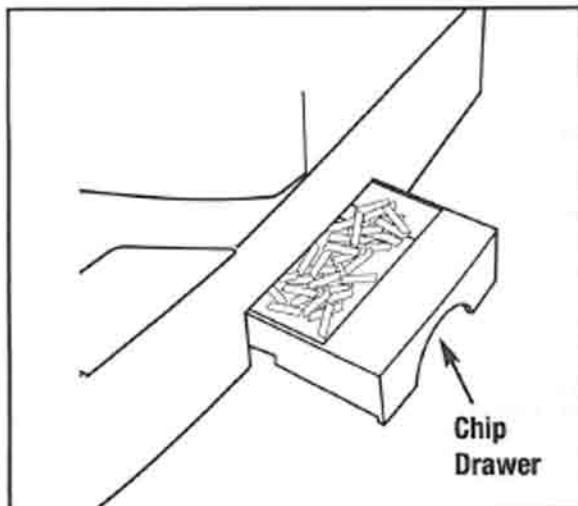

Figure 5
C. EMPTY CHIP DRAWER (see Figure 5)
1. Your CombBind C210E has a chip drawer located on the right side of the machine (see Figure 5). When it is full, an indicator light located above the punch button will illuminate. To empty, gently pull the drawer open and remove it from the machine. Dispose of the contents and re-insert the drawer into the machine until it snaps in place.